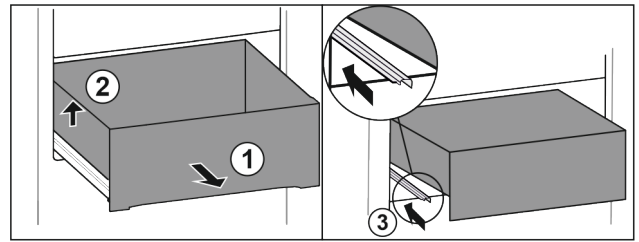

Fig. 14
- ▶ Pull drawer out completely Fig. 14 (1).
- ▶ Lift drawer on the left Fig. 14 (2).
- ▶ Slide in left rail Fig. 14 (3).